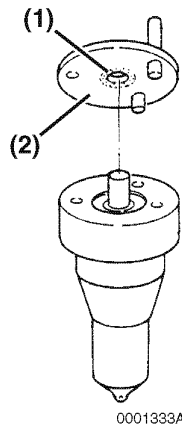

Figure 9-34
6. Inspect the sealing surfaces (**Figure 9-34, (2)**) between the valve stop spacer and nozzle body for nicks or scratches. Check the contact area between the valve stop spacer and the nozzle valve (**Figure 9-34, (1)**) for scoring or pitting. Use a magnifying glass to inspect.